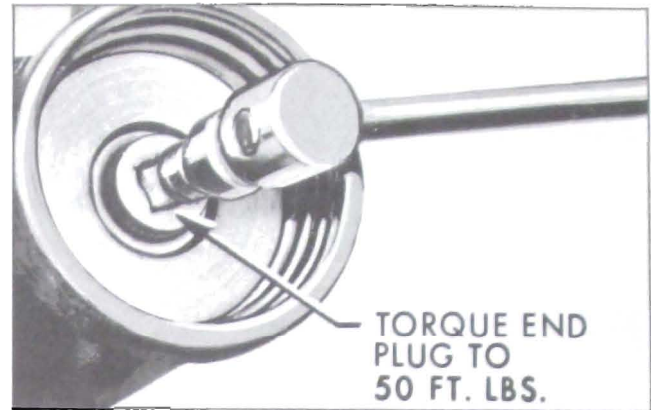

Figure 8-55—Torqueing Rack-Piston Nut End Plug
7. Install rack-piston end plug using 1/2 square drive. Torque plug to 50 ft. lbs. See Figure 8-55.